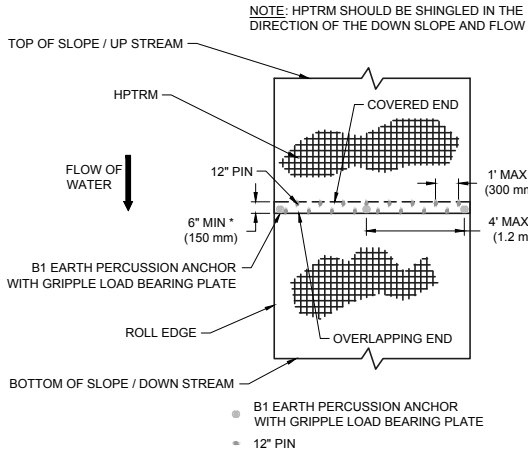

FIGURE 9: OVERLAP AT ROLL END DETAIL
- B. Roll end overlap for slopes: 6 in (150 mm) minimum overlap with upslope mat on top. Secure with two rows of pins staggered 6 in (150 mm) apart on 12 in (300 mm) centers and with one row of Gripple Earth Percussion Anchors on 4 ft (1.2 m) centers (see Figure 9).